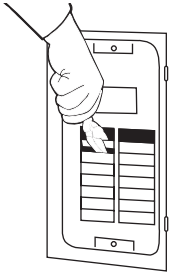

Figure 8: Removing Twistouts
- b. Twist out with pliers at the center of the twistout. See Figure 8.